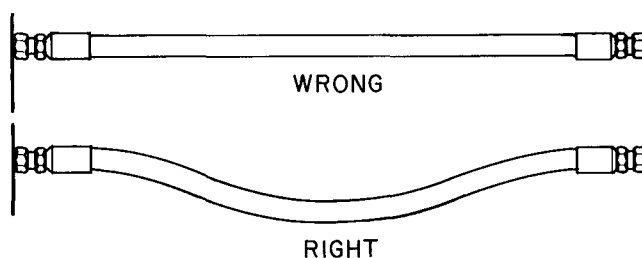

Fig. 1b — Provide Sufficient Slack
2. Where radius falls below required minimum, an angle adapter should be used as shown in Fig. 1a to avoid sharp bends in hose. Since hose may change in length from +2% to -4% under surge of high pressure, provide sufficient slack as shown in Fig. 1b. Provide adequate clearance to sharp surfaces to prevent chafing under such conditions.